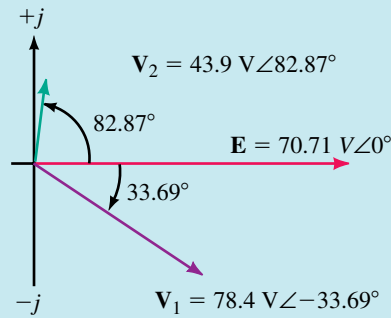

FIGURE 18-33
- The phasor diagram is shown in Figure 18-33.